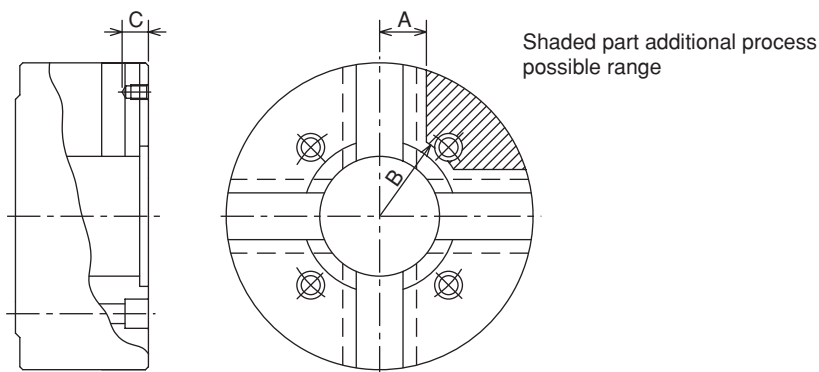

Fig.14
- In the case of attaching the locator and the jig on the chuck body surface, tap or drill a hole in the additional process range specified in Fig. 14.